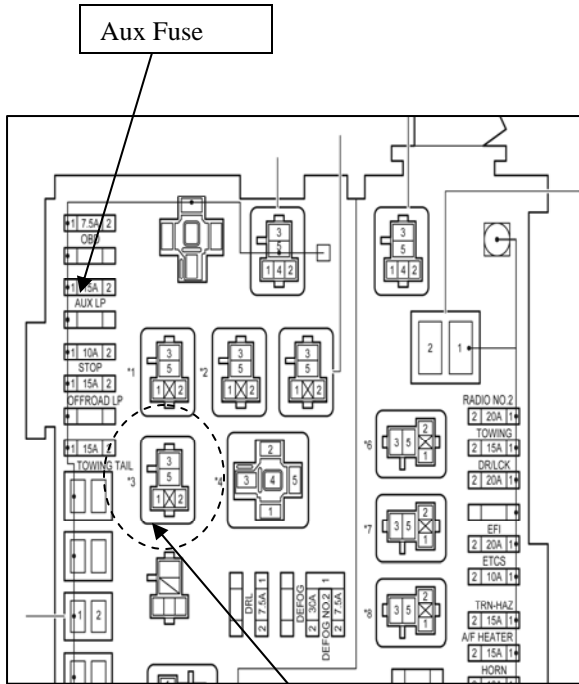

Fig. 6-1
- (a) Install the provided 15 amp fuse. (Fig. 6-1)
- (1) Install the provided relay.